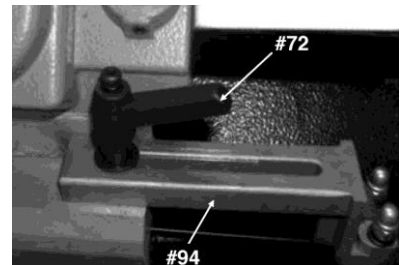

Fig. 6
3. To position the angle of the blade, loosen the lock handle (#100), turn the swivel support (#102) until the mark matches the desired angle on the scale and then lock the swivel support. (Fig. 6)